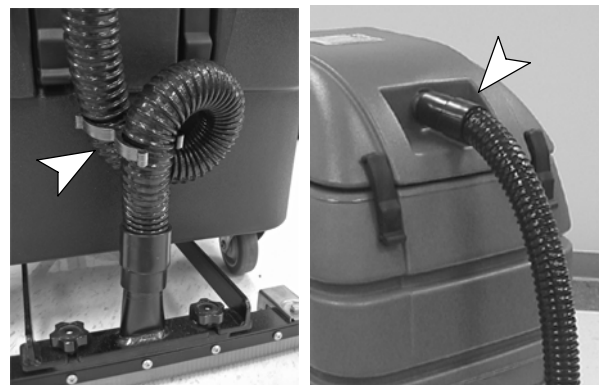

FIG. 8
10. Connect the 145 cm (57 in) vacuum hose to the squeegee assembly and to cover snout. Loop the hose as shown using the hose clip provided (Figure 8).